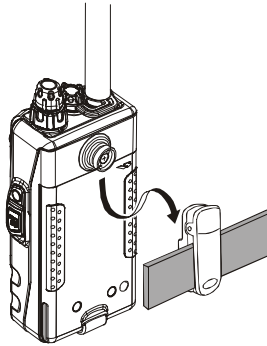

Figure 3
- ❑ To install the **VX-127** into the Quick-Draw Belt Clip, align the hanger with the Quick-Draw Belt Clip, and slide the **VX-127** into its slot until a click is heard (Figure 3).